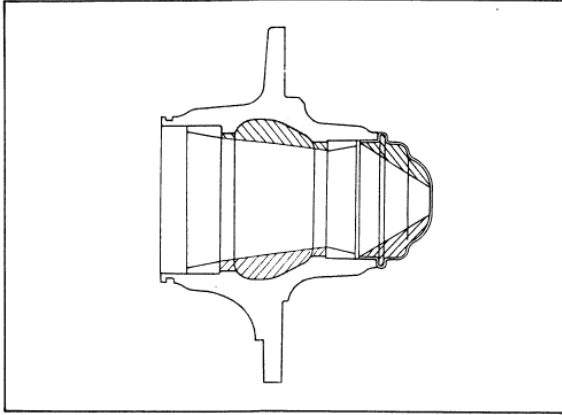

Fig. FA-9 Filling space between wheel bearing
6. Fill wheel hub and hub cap with multi-purpose grease (MIL G2108 or 10924) up to the described level. See Figure FA-9.